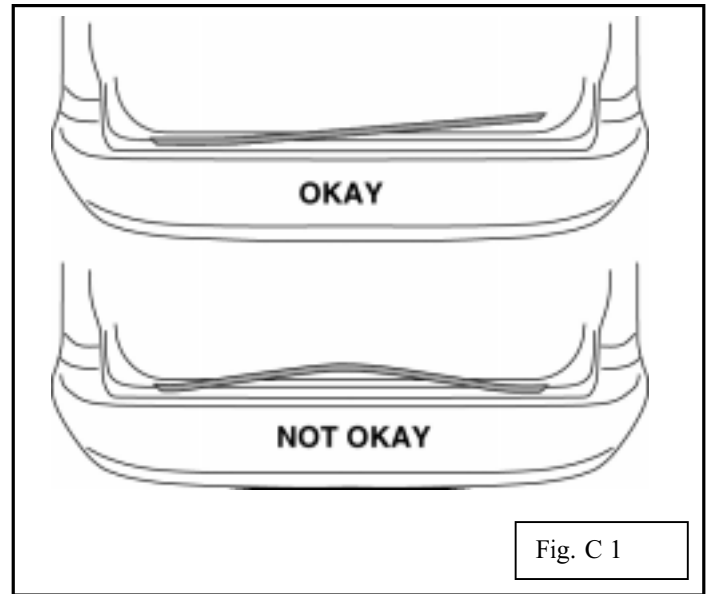

Fig. C 1
- ➔ 3. While keeping the bumper protector aligned, lower the left-hand corner until it contacts the bumper and starts to stick. Using a rolling motion, lower the rest of the bumper protector to the bumper from left to right. Do not allow both ends of the bumper protector to stick to the bumper before the center touches. See Fig. C 1.